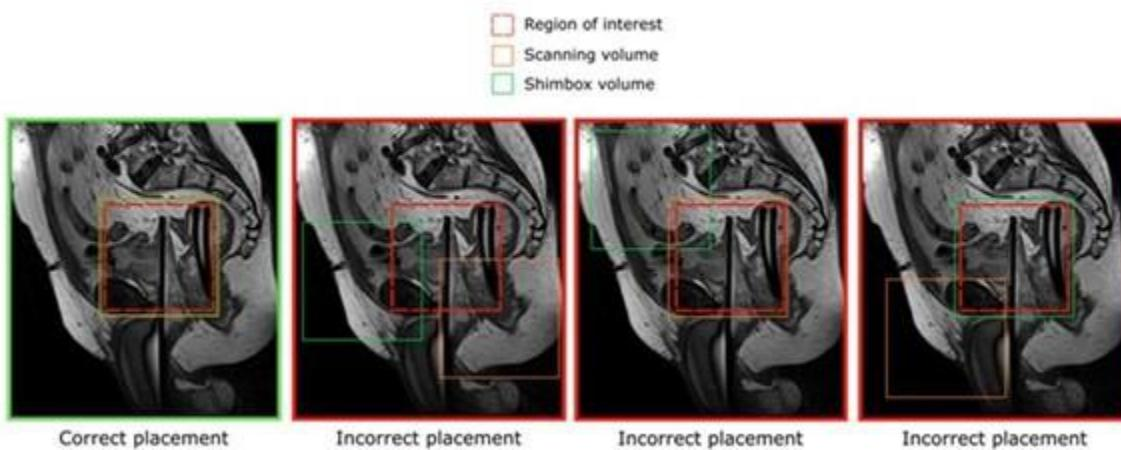

Figure 37: Examples of correct and incorrect placements of the shim box
1. **MRI Technologist:** Open AX THERM for editing in the Offc/Ang tab, change the AP, RL, and FH values for both Stack Offc. and Ang (Figure 38). to match those in TDC. Do the same for the shim volume. If the shim volume includes more than just the patient anatomy (e.g. air), reduce the size of the shim box (Figure 37).